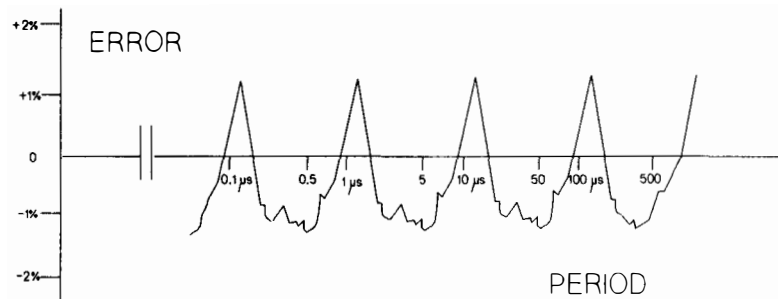

Figure 9-4. Decade Accuracy
4. The typical period accuracy of the period decades is as shown in Figure 9-4.
9. Check that the **mid-range** deviation is about the same as the low/high range BUT negative. See Figure 9-4.
3. The typical Width range characteristic is shown in Figure 9-4.